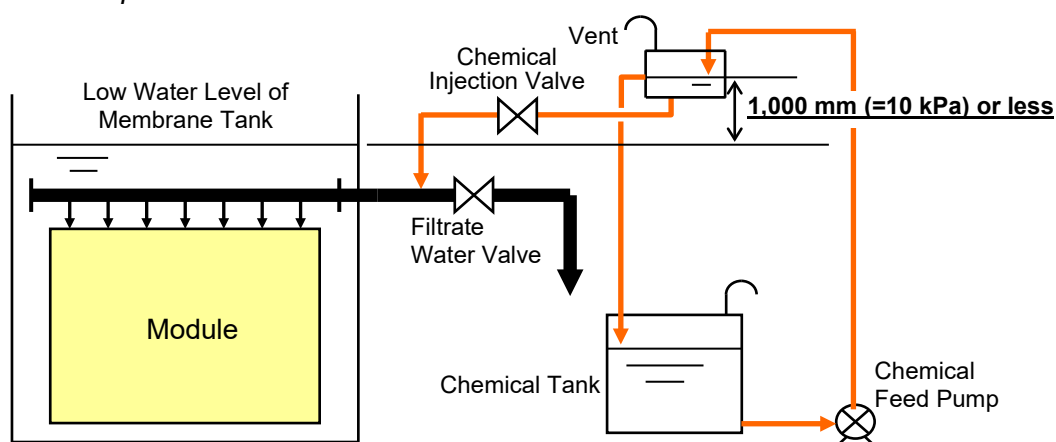

Fig.VIII-2 Chemical Cleaning with Chemical Tank Located at the Bottom
- a. Chemical cleaning with the chemical tank located at the bottom (Fig.VIII-2)